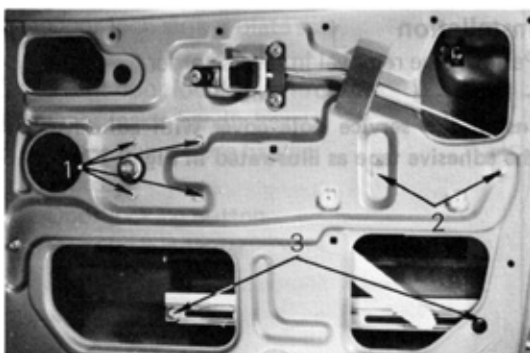

Fig. 2-31 Installing Window Regulator (1)
1. As shown in Fig. 2-31, mount the regulator with bolts (6), and leave bolts (2) finger tight.